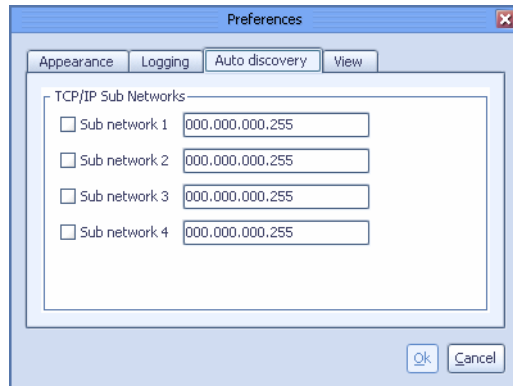

Figure 10-4 ProtecTIER Manager Remove node confirmation
2. Click **Remove node**. A confirmation message box opens (Figure 10-4).